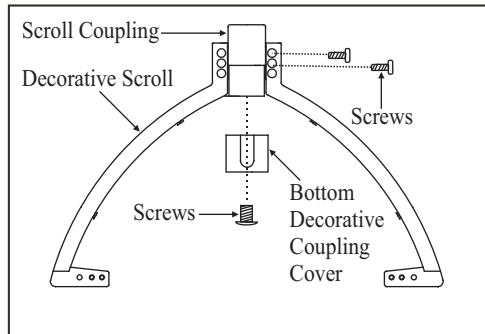

Figure 4
1. Secure the decorative scroll to the scroll coupling with two screws provided, repeat the procedure with the remaining decorative scrolls. (Figure 4)
2. Remove the screw from the bottom of scroll coupling, installing the bottom decorative coupling cover onto the scroll coupling and securing with the screw provided. (Figure 4)